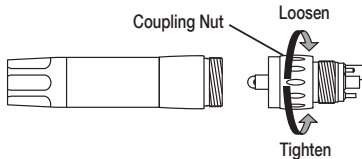

Fig.5
- 2) While holding the coupling cap, rotate the coupling cap in the direction of the arrow to loosen. (Fig. 5)